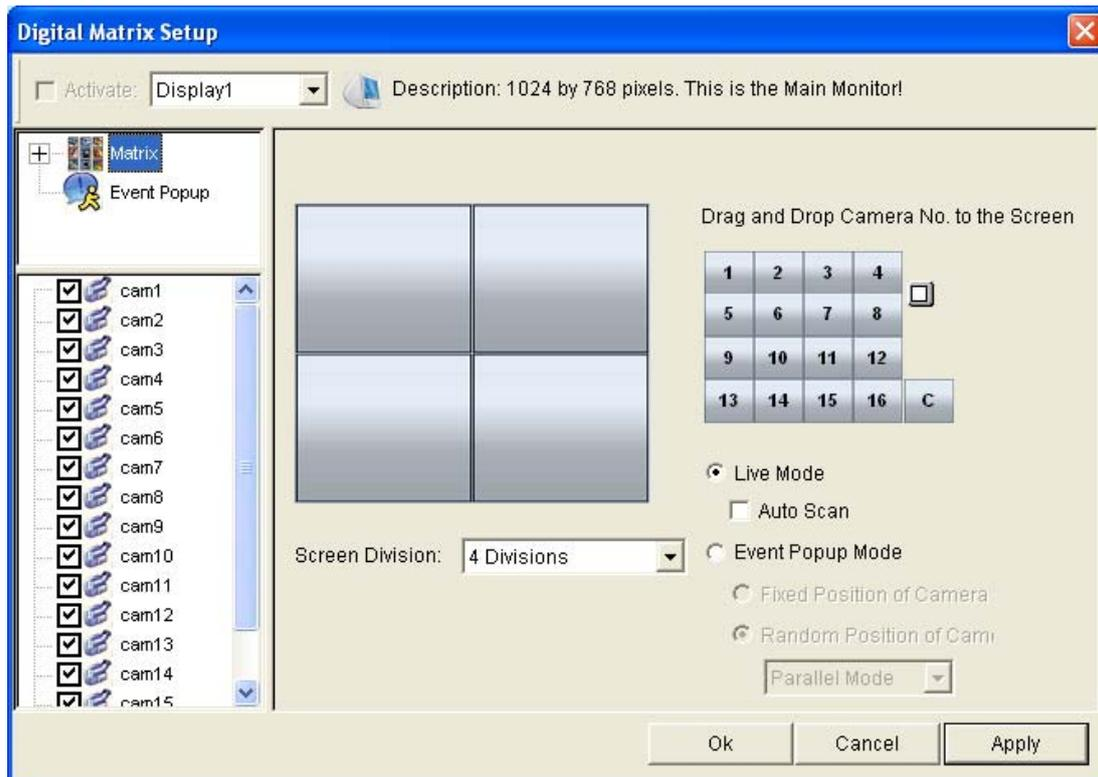

Figure 11-87
4. Click the **Matrix** icon and return to Figure 11-87. Ensure the **Live Mode** option is selected.